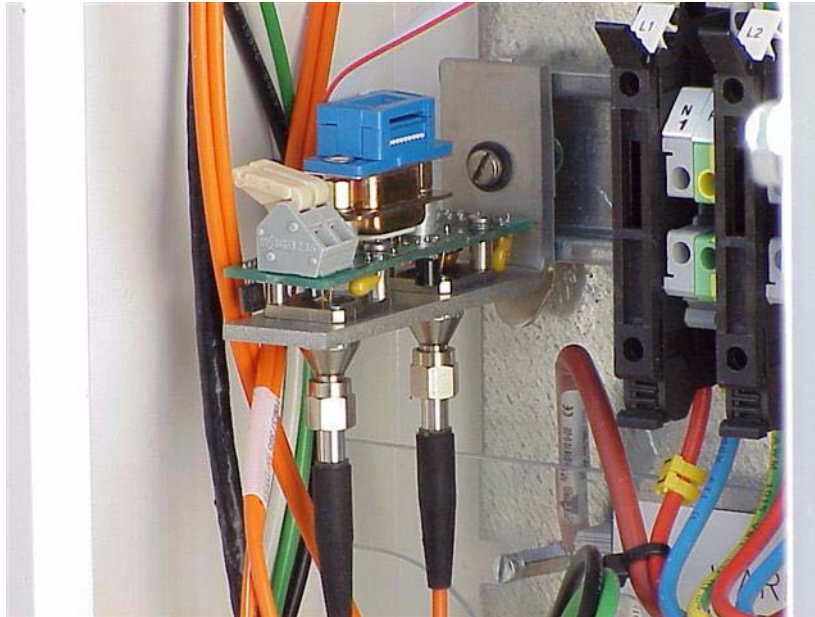

Figure 1. F/O Installation
3. There are a few DTS1 sensors without the fiber optic module installed in its electronics enclosure. In this situation, install the fiber optic module must be installed using the supplemental hardware kit provided. Install this module on the din rail to the left of the terminal block as illustrated in Figure 1.